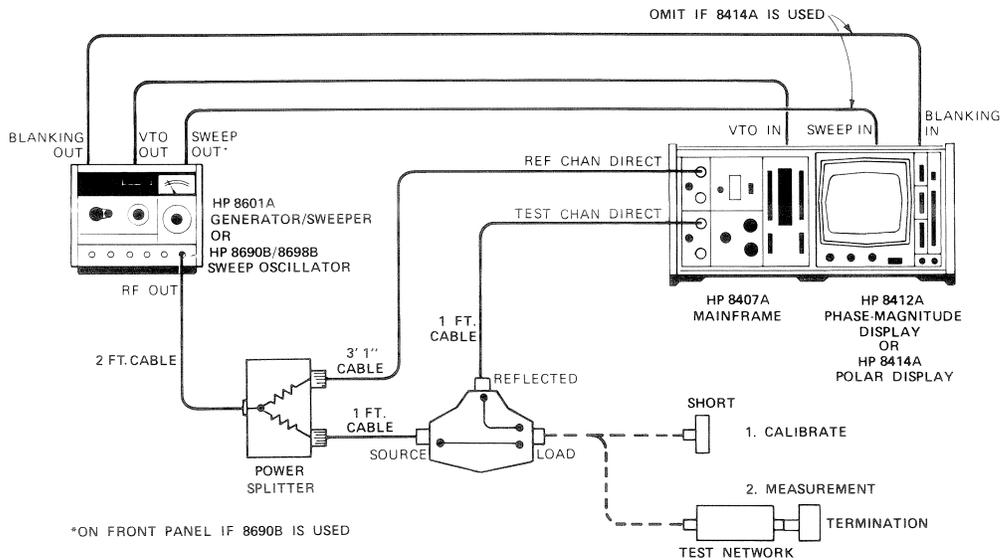

Figure 5. Basic Setup for Reflection Measurements
Be sure the HP 8721A Directional Bridge is being used as a reverse coupler, not as a forward coupler during a reflection measurement (see Figure 5). This ensures that only the reflected signal will enter the test channel ($E_{\text{REFLECTED}}$)
- The HP 11652A is used as shown in Figure 5 when measuring complex impedance, reflection coefficient or return loss (VSWR).
1. Set up the equipment as shown in Figure 5.